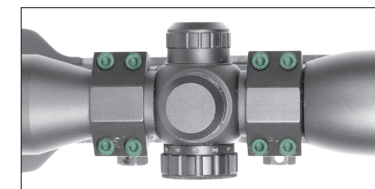
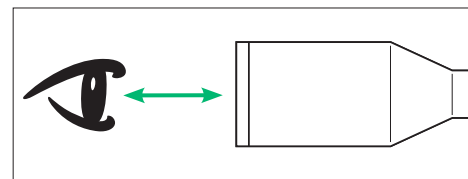

FIGURE 6
FIGURE 7
1. Attach the scope mount rings onto the scope using the scope mount screws (4) (Fig. 6). Position your scope by moving it forward or backward until the proper eye relief is found. Eye relief is the distance from the rear lens your eye requires to see a full picture while looking through the scope. Standard eye relief is typically 2"- 3.125" for the CP400 scope when you are holding the crossbow in a shooting position (Fig. 7).